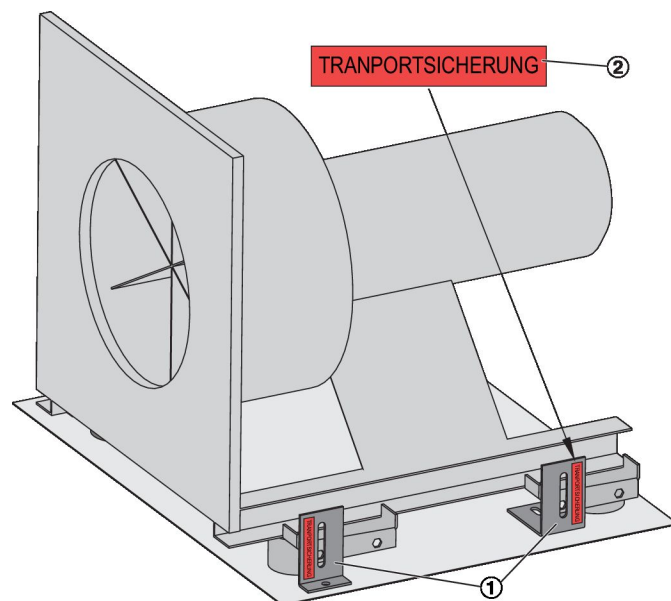

Fig. 9: Transport protection brackets
- 1 ▶ On the fan, remove the brackets (Fig. 9 /1) that are marked with a red sticker (Fig. 9 /2).